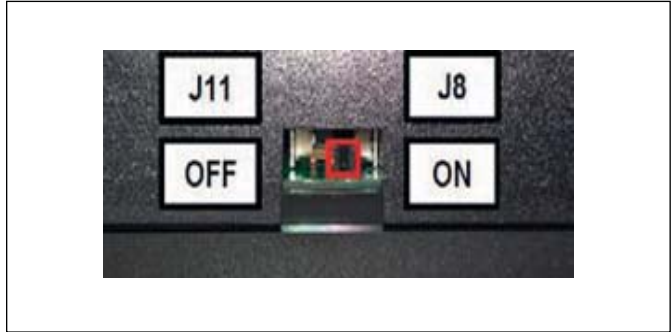

Figure 3
2. Switch "OFF" the S4 switch on all modules except the Managing boiler module 1, this must be on. The S1 switch is "OFF" when it is toward the left side. See Figure 3 for locating the S1 switch on the control board.